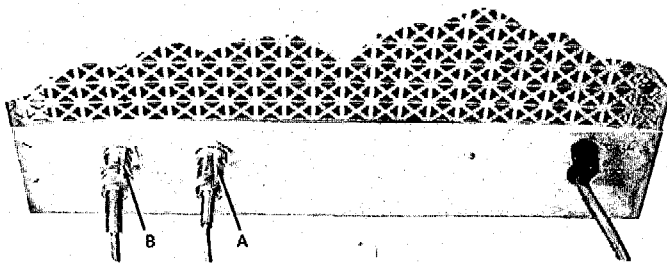

Figure 6 - Cable Connections - Body Box Right Side Panel
C.5. Connect the long cable with a 3-pin plug at both ends between the socket labeled J30 VENT on the back of the power supply chassis (A of Figure 5a and 5b) and the socket labeled VENT on the right side of the Body Box (A of Figure 6).
C.9. Connect the plug on the end of the speed control cable to the socket labeled **HAND CONTROL** on the right side of the Body Box (B of Figure 6). Place the speed control in the hook provided for it at the top of the Body Box.